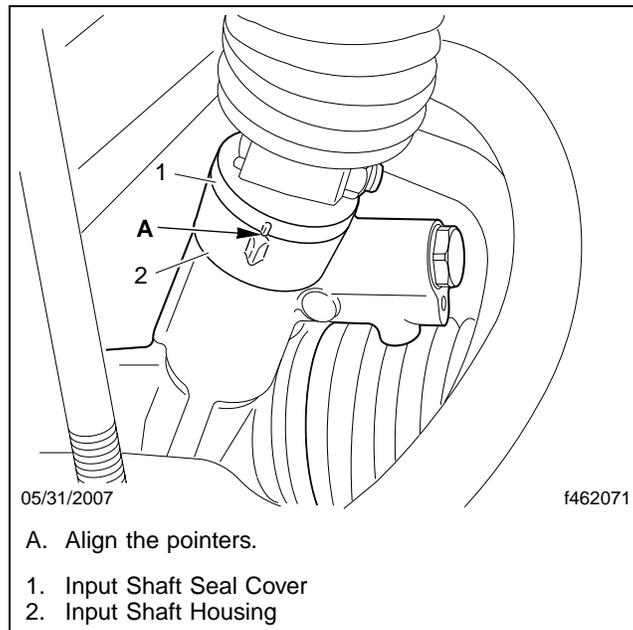

Fig. 4, Pointer Alignment
- 8.2 Align the pointers on the input shaft seal cover and the input shaft housing. See **Fig. 4**.
- 9.2 With the wheels on turnplates, center the rack travel by aligning the timing pointers on the input shaft seal cover and the input shaft housing. See **Fig. 4**.